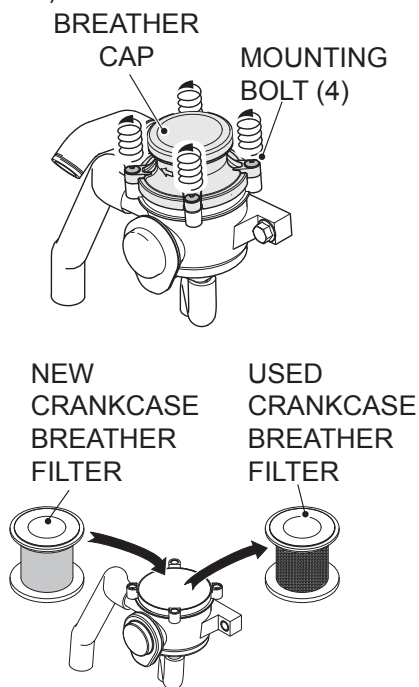

Figure 30. Replacing Crankcase Breather Filter
1. Release the four mounting bolts on the breather cap (Figure 30).